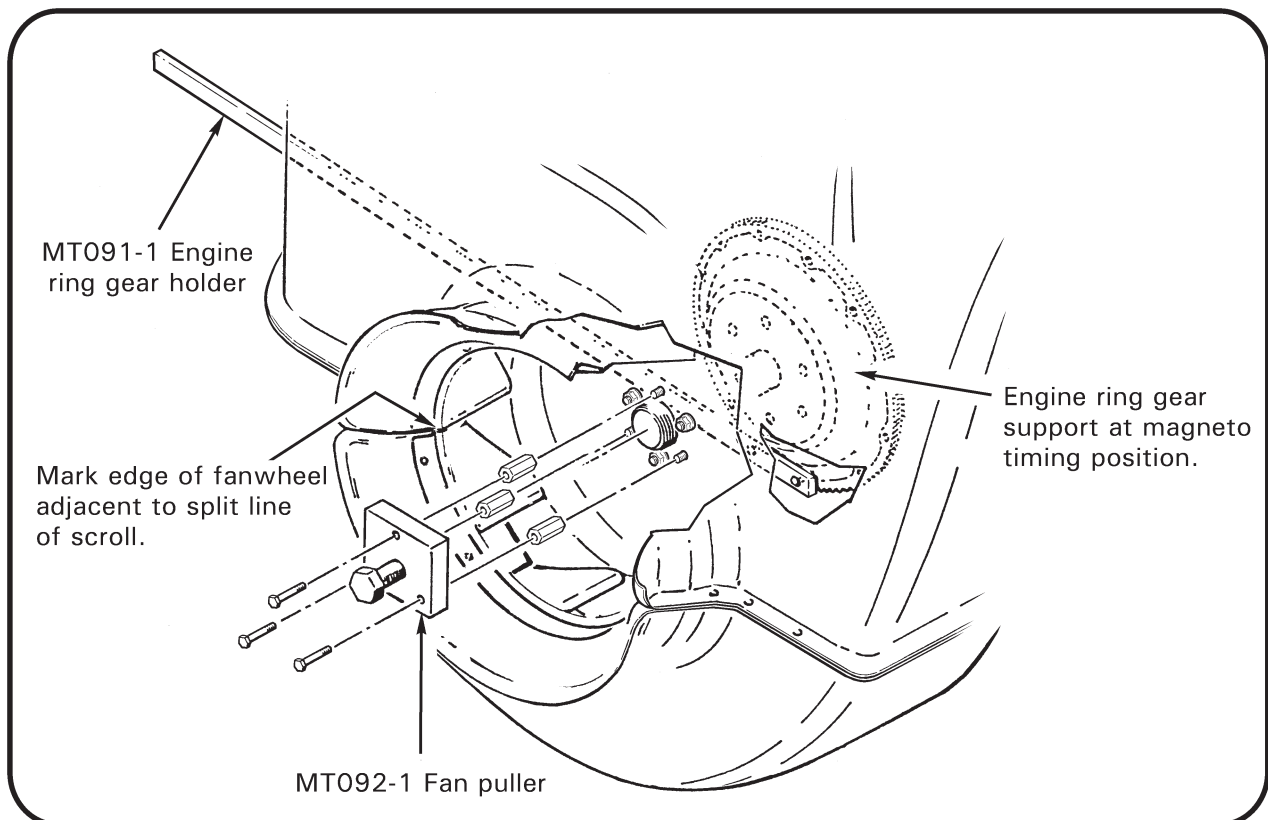

FIGURE 6-3B PULLING FANWHEEL
If same fanwheel is to be reinstalled then orient starter ring gear support to magneto timing position and mark fanwheel at split line of scroll; this will minimize need for new balance weights. See Figure 6-3B.
- b) Remove safety wire and roll pin from fanwheel retaining nut. Refer to Figure 6-3B. Secure MT091-1 engine ring gear holding tool to ring gear support and hold ring gear stationary. Remove fanwheel retaining nut.
- d) See Figure 6-3B. Ensure MT092-1 fanwheel puller tool's large center bolt is unscrewed sufficiently so it will not contact fan shaft. Attach fanwheel puller to MT092-3 spacer nuts.